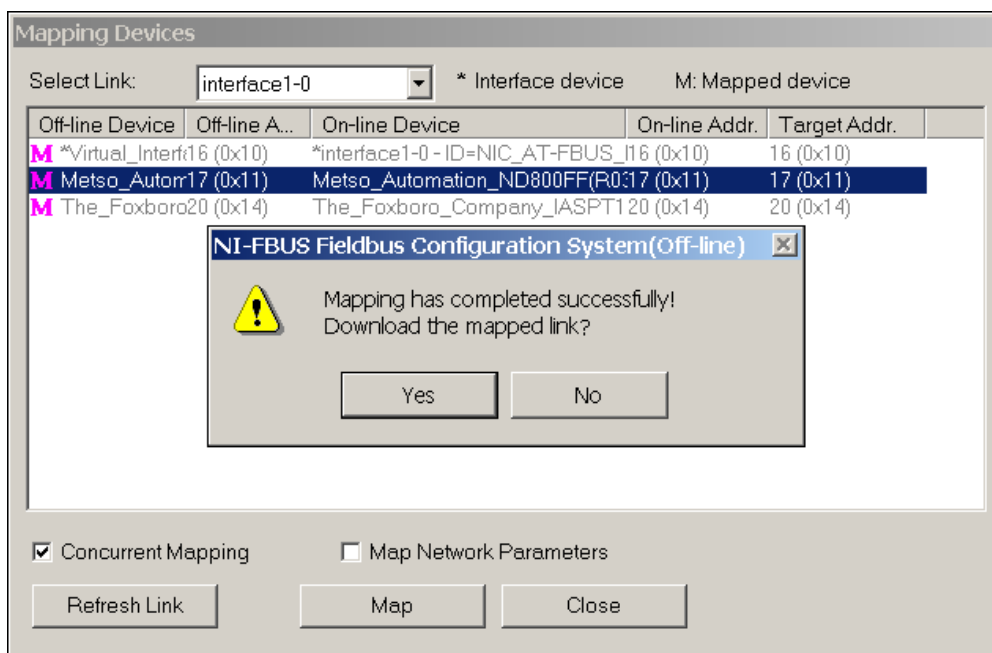

Figure 3-11. Partially Mapped Link
6. After all the virtual devices you selected are mapped (you can have more or fewer physical devices than virtual devices), the mapping ends, as shown in Figure 3-11.